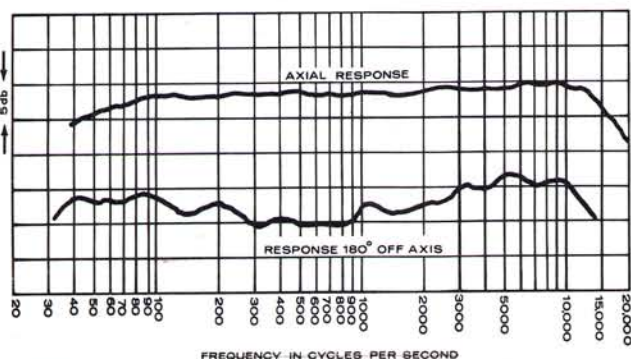

Figure 2 - 666 Frequency Response
- FREQUENCY RESPONSE:** Model 666 (Figure 2.)